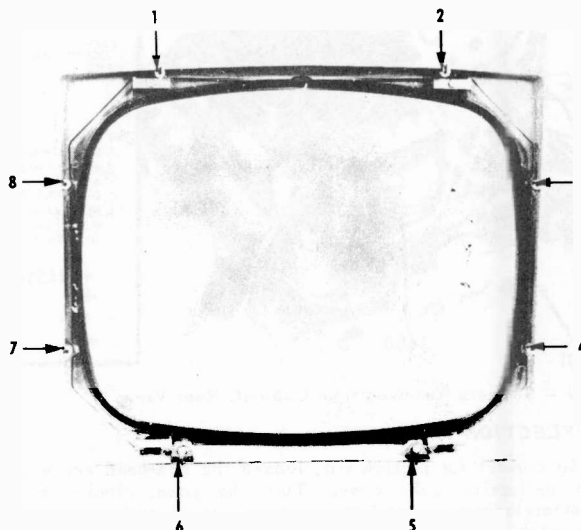

Figure 2 - Mask and Safety Shield Assembly
- Remove screws 1 through 8. (Figure 2). Screws 5 and 6 are accessible from the bottom of the cabinet.